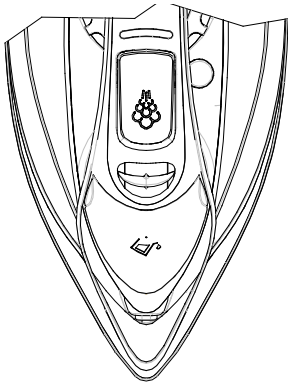
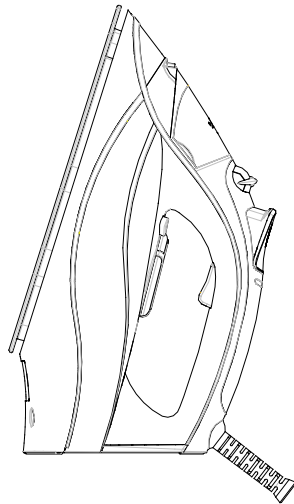

Figure 3
Figure 4
2. Connect into power supply and indicator light will be illuminated, make sure Steam button is in the Dry position, then place iron as fig.4
3. Once the light is off, hold the iron over the sink and turn steam button to SELF CLEAN position (Fig.3) with a little force. Steam and boiling water will come out of the soleplate while impurities and flakes will be flushed out.
4. Make sure steam button is on dry position. (See fig 3), then place the iron vertically (See fig 4).